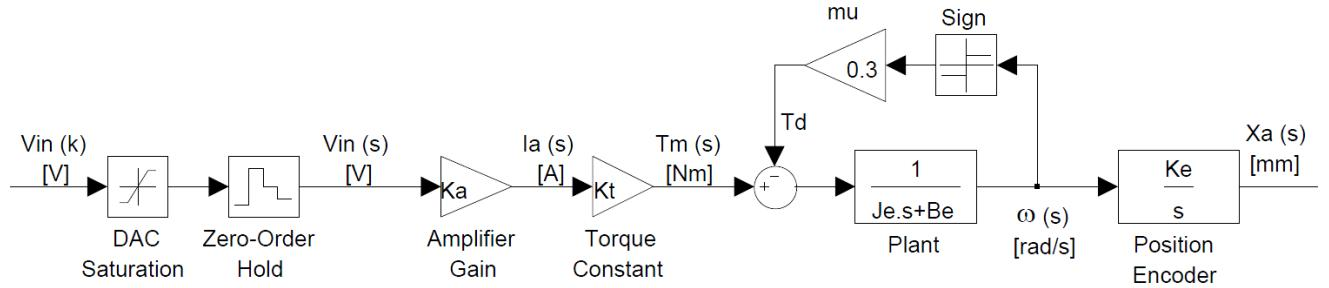

Figure 1 : Open loop Block Diagram of Ball Screw Feed Drive System
- 1. Discrete Transfer Function Derivation:** The first step in designing a digital controller for the drive is to convert the open loop transfer function identified in Lab1 from continuous domain ( $s$ -domain) to discrete domain ( $z$ -domain). Based on the model identification carried out in the first project, the block diagram of the open position loop is depicted in Figure 1. Manually obtain the
Obtain the discrete time state space model of the machine shown in Figure 1. Simulate the step response of the system using the discrete state space model of the machine given in Figure 1. Compare the results obtained from discrete transfer function and state space models.
Based on the block diagram in Figure 1, create a Simulink model for the closed-loop system with P-Controller by including zero order hold. Include the Coulomb friction and Saturation blocks. Use the Coulomb friction model derived in Lab 1 with  $\mu_k = 0.3$  [Nm]. The limits for the Saturation block are  $\pm 3$  [A]. Obtain the step response of the closed loop digital control system with and without the friction model. Comment on the effect of Coulomb friction on the overshoot, rise time, and settling time of step response. How does the saturation block affect the overshoot, rise time, and settling time? (Try different values of saturation limit between 0.5-3 [A])